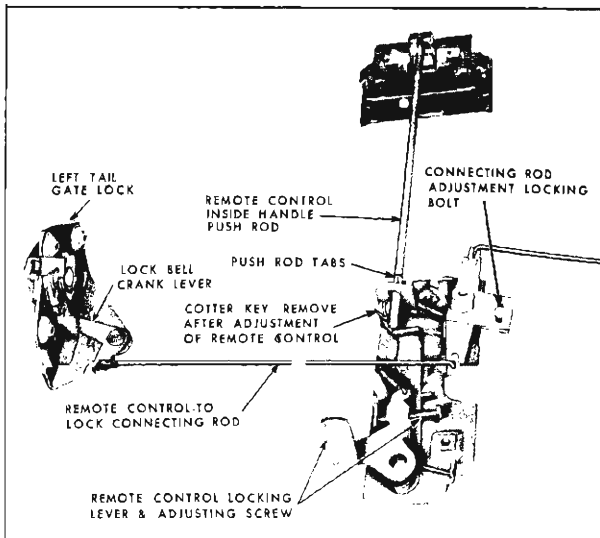

Fig. 91—Tail Gate Lock and Remote Control
3. Disengage spring clip and detach lock remote control connecting rod from lock remote control (fig. 91).
To attach lock connecting rod to remote control lever, first, loosen connecting rod adjustment locking bolt at remote control (fig. 91); then, install rod to lever and tighten locking bolt.
NOTE: To engage end of handle push rod into hole in remote control lever, it may be necessary to raise window in tail gate to gain access to lever. Adjust remote control upward until tabs on handle push rod (fig. 91) just contact remote control lever.
2. Disengage clips securing lock connecting rods to remote control (fig. 91) and detach connecting rods from remote control.
2. Adjust remote control assembly up or down until tabs on push rod (fig. 91) just contact remote control lever.
3. To attach lock connecting rods to remote control lever, first, loosen connecting rod adjustment locking bolt (fig. 91); then, install rods to levers and tighten locking bolt.
IMPORTANT: If installing a new remote control assembly, remove cotter key (fig. 91) after adjustment, to free locking lever.
6. Lower window to approximately $\frac{1}{2}$ inch up from full down position; then adjust remote control locking lever adjusting screw (fig. 91) so that lever is just contacting window lower sash channel frame. Check operation of remote control inside handle—handle should remain locked until window is lowered to within $\frac{1}{4}$ inch of the full down position.